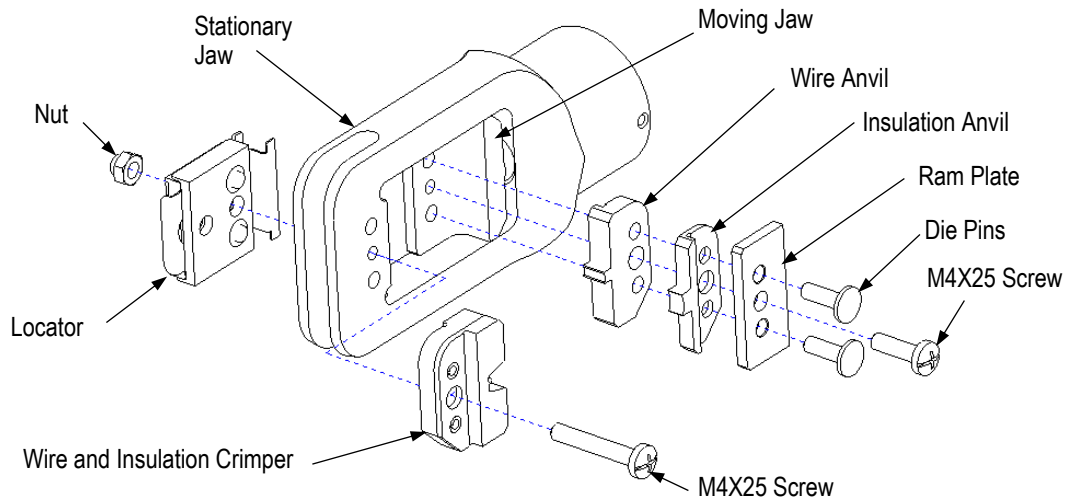

Figure 2
3. INSTALLATION AND REMOVAL OF DIE ASSEMBLY (FIGURE 2)